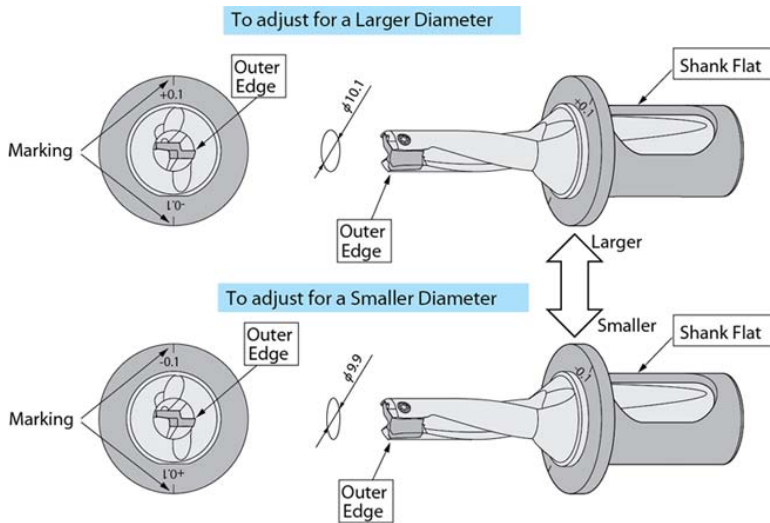

Fig.1 Diameter Adjustment Method (e.g.) φ10 Drill
- ① Set the outer edge horizontally: 90° to the marking line on the sleeve (Fig.1)
- ② To adjust to a larger diameter, align the +0.1 mark on the sleeve with the flat on the drill shank. To adjust to a smaller diameter, align the -0.1 mark on the sleeve with the flat on the drill shank.
- ③ Tighten the bottom screw firmly which is directly touching the drill. Slightly tighten the upper screw which is directly touching the sleeve.